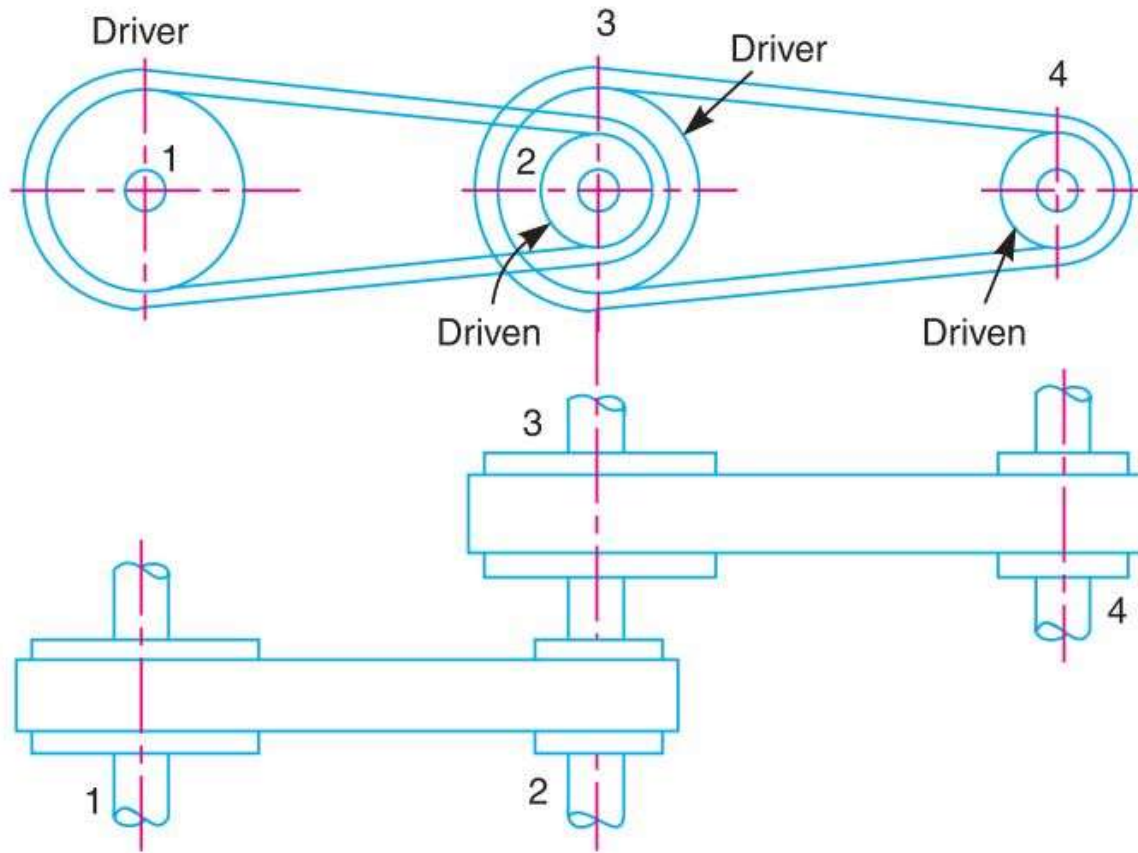

Fig. 11.7. Compound belt drive.
5. Compound belt drive. A compound belt drive, as shown in Fig. 11.7, is used when power is transmitted from one shaft to another through a number of pulleys.